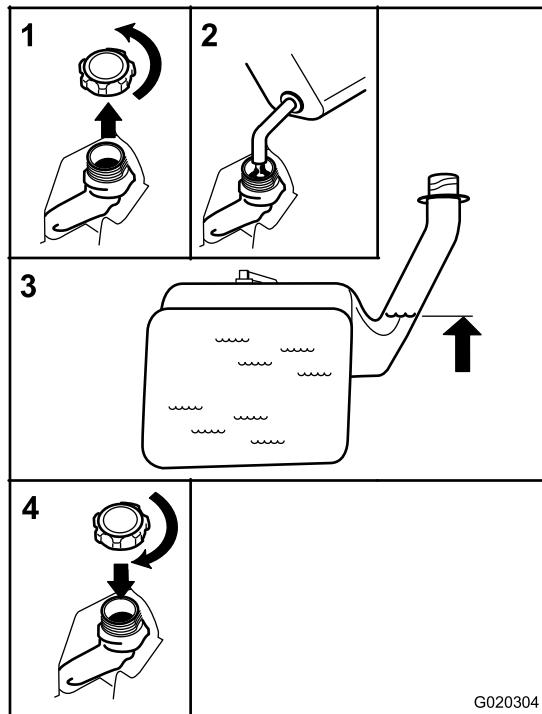

Figure 8
2. Slowly add regular, unleaded gasoline until the fuel reaches the base of the filler neck Figure 8.